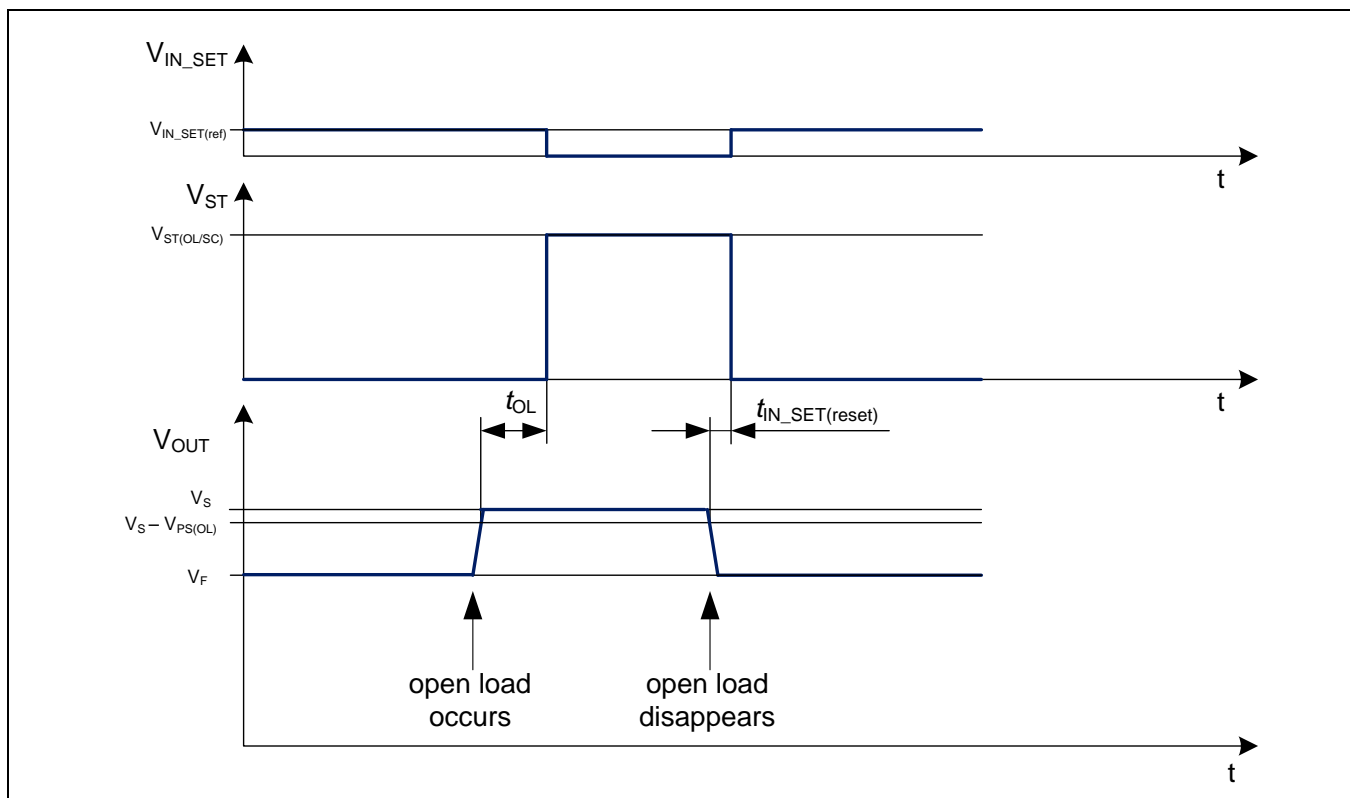

Figure 40 Open Load Detection and recovery timing (ST pin diagnosis)
- The diagnostic condition for OL or SC to ground is not latched, the output will function normally again after the fault is removed. The ST pin will transition to an unfaulted state after a delay of $t_{N_SET(reset)}$ as shown in Figure 40.